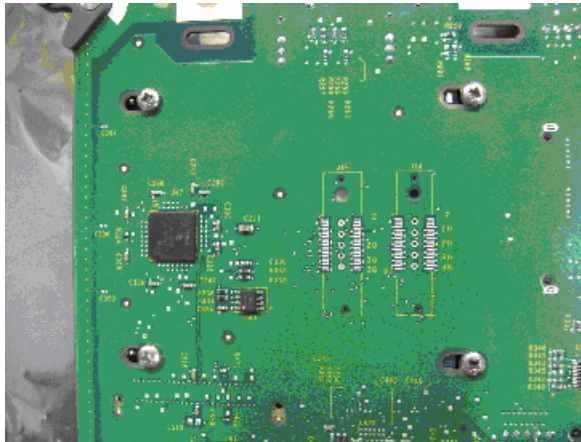

Figure 168: CP MG card hard drive screws
2. Remove the four Phillips screws on the bottom of the CP MG card to unsecure the hard drive, see Figure 168: CP MG card hard drive screws on page 602.